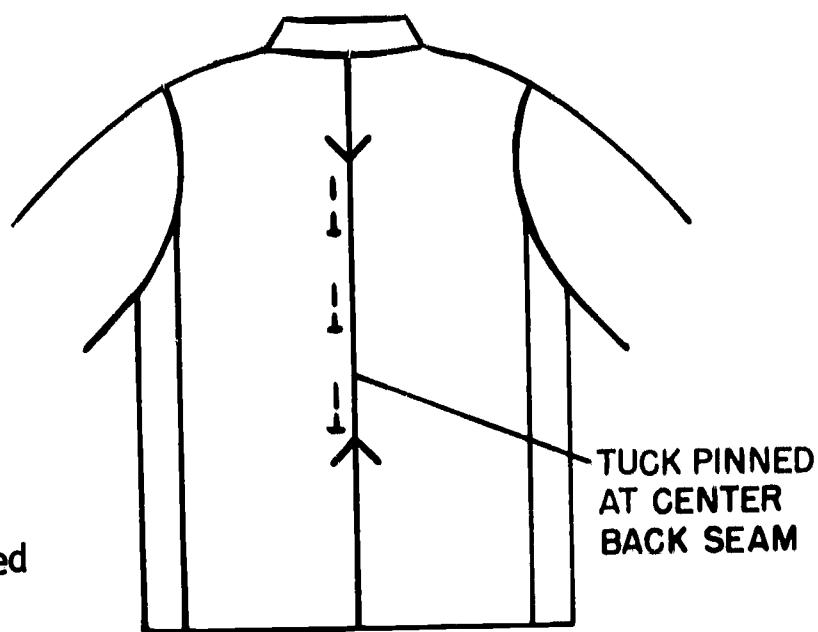

Figure 51.
2. The amount to be taken out of the entire back will usually be marked by a tuck, which is pinned at the center back (CB) seam (see Figure 51).